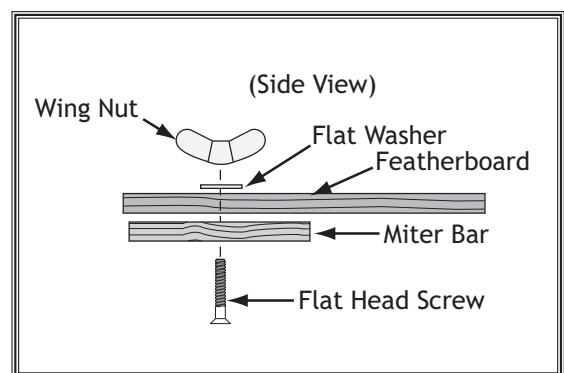

Figure 73. Assembling miter slot featherboard components.
8. Assemble the miter bar and featherboard with a $\frac{1}{4}$ "-20 x flat head screw, flat washer, and a wing nut or a star knob (see **Figure 73**). Congratulations! Your featherboard is complete.